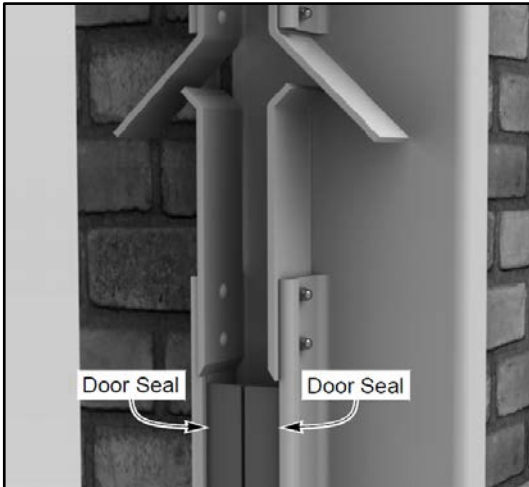

Figure 64
1. Inspect all four door seals on the side columns for wear and tear. Replace as necessary. (See Figure 64)